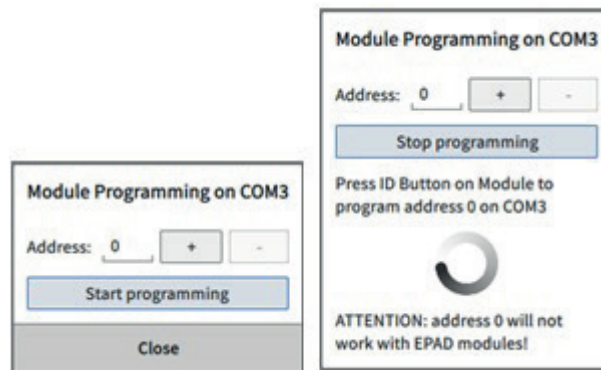

Figure 7: EPAD-programming procedure
- > Next, select the starting EPAD2 address (cannot be 0) and then select *Start programming* (see Figure 7)
- > When finished programming, select the *Stop Programming* button (see Figure 7).